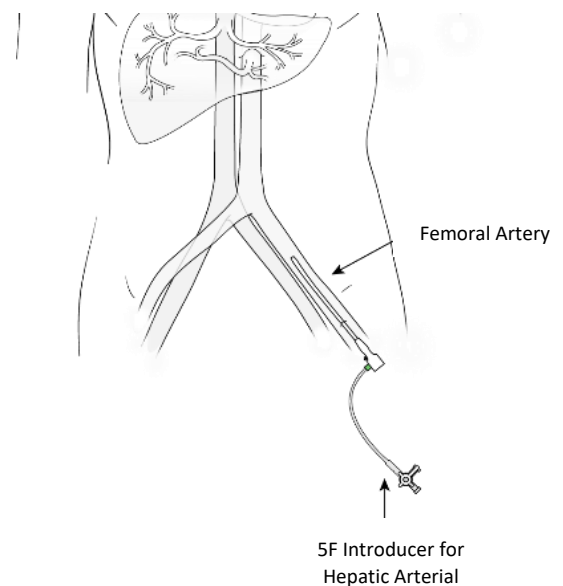

Figure 23
- (a) Using Seldinger puncture technique and standard fluoroscopic and arteriographic techniques, place the 5F Introducer Sheath into the femoral artery, see Figure 23. Use of sonographic guidance and a single anterior wall puncture of the femoral artery over the femoral head are required so as to assure compressibility of the artery when the sheath is removed. If a supra-inguinal puncture is inadvertently made, the procedure must be aborted and postponed to a later date.